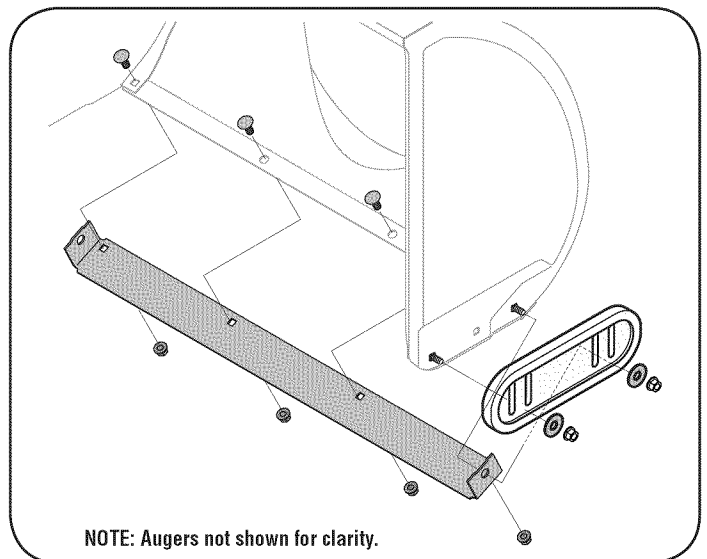

Figure 18
2. Reassemble new skid shoes with the four carriage bolts (two on each side), washers, and hex flange nuts. Refer to Figure 18.
2. Reassemble new shave plate, making sure heads of carriage bolts are to the inside of housing. Tighten securely. Refer to Figure 18.